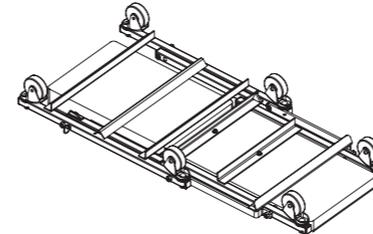

Fig. 2
4. Using the included 5mm hex key to fasten the Casters to the Creeper Frame. Insert the threaded Fasteners from the top and the Casters from the bottom, then tighten with hex key. (Fig. 2)